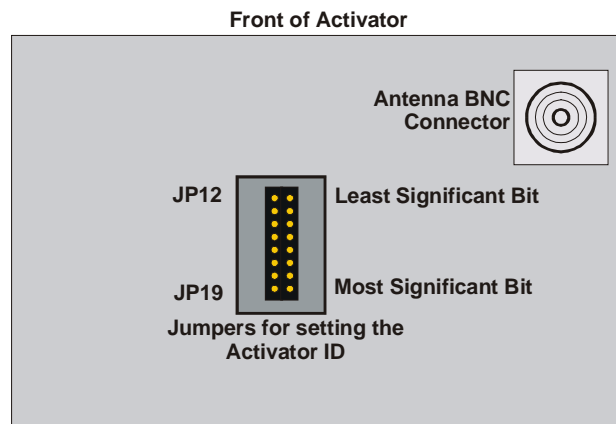

Figure 13 Activator ID jumpers
Step 2: Using needle-nose pliers, place jumpers on headers JP12 through JP19 (Figure 13) to represent the ID number in binary. A jumper on a header represents a one and absence of a jumper is a zero. JP12 is the least significant bit and JP19 is the most significant bit.